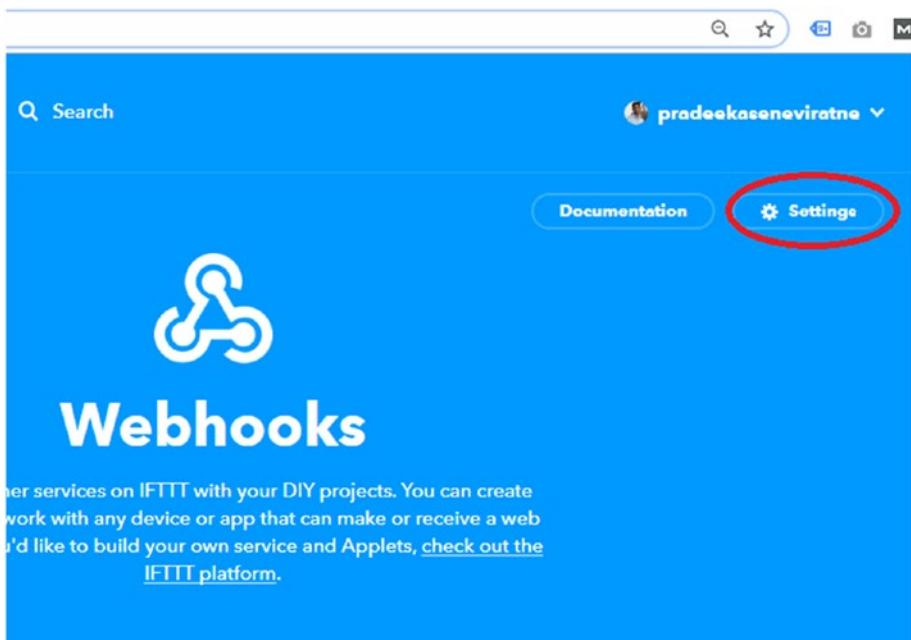

Figure 8-37. Accessing the webhook settings
19. Now you have successfully created a recipe with IFTTT webhooks to make HTTP GET requests to the Traccar server. Still you will need to find one more thing: the key. On the Webhooks page (https://ifttt.com/maker_webhooks, click the Settings button (Figure 8-37).